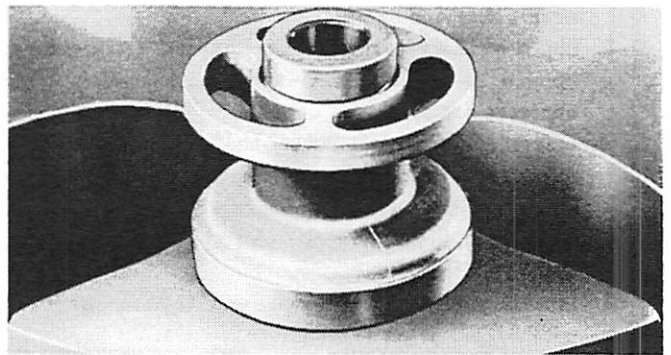

Figure 11. Installing Oil Seals in Carrier
2. Press oil seal into bearing carrier flush with face of carrier, seal lips facing inward. (Figure 11)